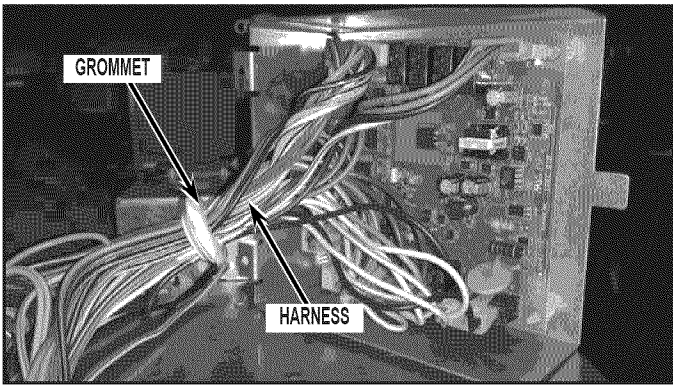

FIGURE 6
8. Remove the grommet from the side of the old HV assembly. See *Figure 6*.
9. Remove all connectors from the old HV board and discard old HV assembly. DO NOT REMOVE HARNESS that was connected to the old HV assembly, from unit. See *Figure 6 and 7*.